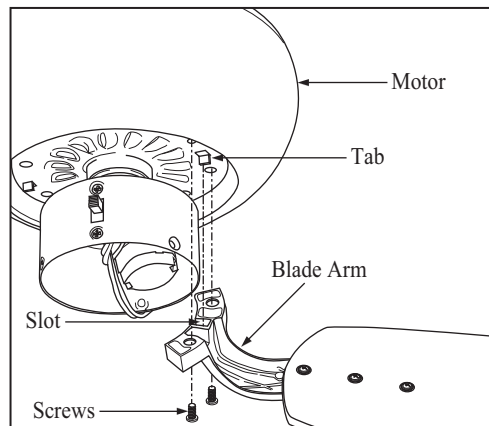

Figure 12
3. Fasten the blade assemblies to the motor housing by lining up the slots of the blade arms with the tabs on the motor housing, then tighten the two screws and washers already installed in the blade arms (Figure 12).